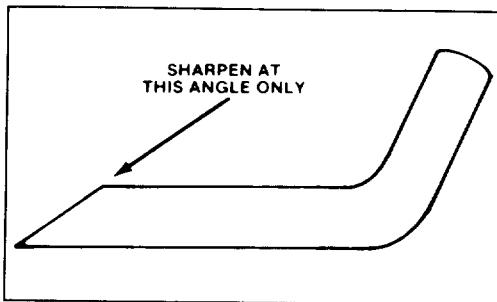

Figure 18
6. SHARPENING BLADE—Using a file, sharpen top side of blade (side facing mower housing) and maintain original cutting angle (Fig. 18). The blade will remain balanced if the same amount of material is removed from both cutting edges.